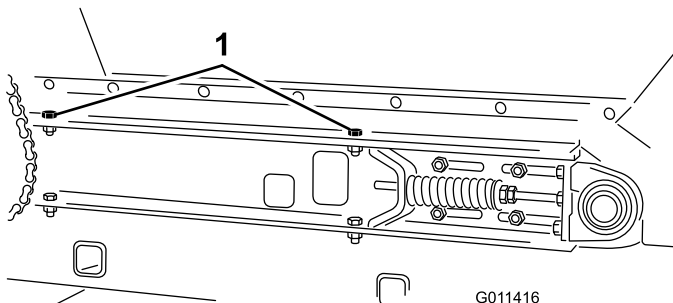

Figure 32
4. Remove (2) capscrews, washers and nut, on each side of machine, securing hopper to slider bed (Figure 32).